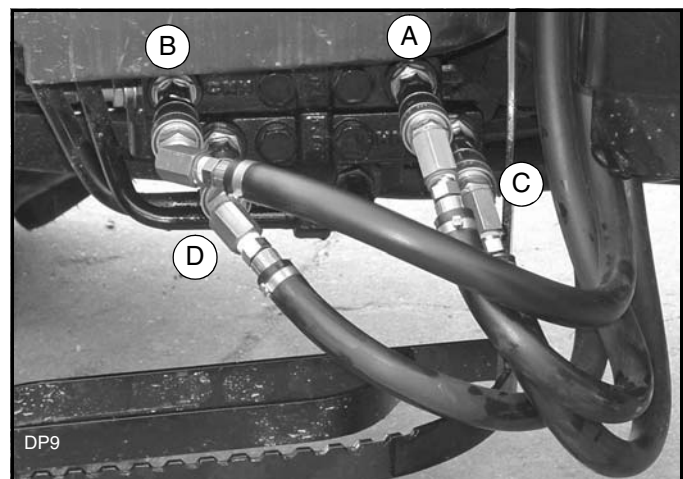

Figure 36. Hydraulic Hose Connection to Tractor Valve
Connect hoses to the hydraulic quick couplers as shown in Figure 36.
2. Connect loader feedline hoses to control valve hydraulic couplers (See Figure 36).